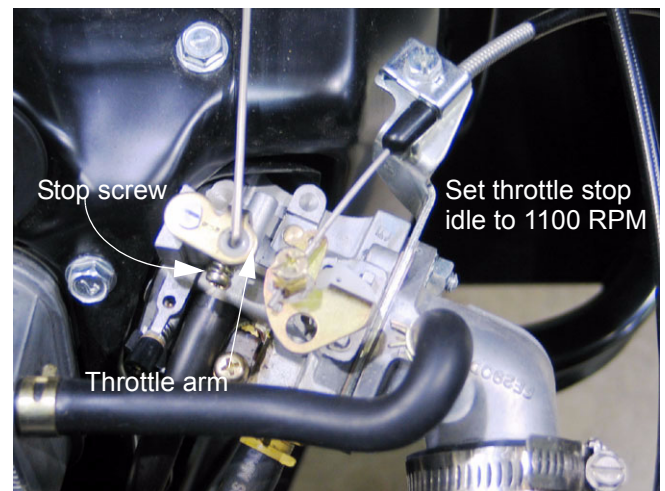

Figure 5.28
- 5.28. Start the engine and check the idle speed controlled by the stop-screw on the throttle arm of the carburetor. See Figure 5.28.